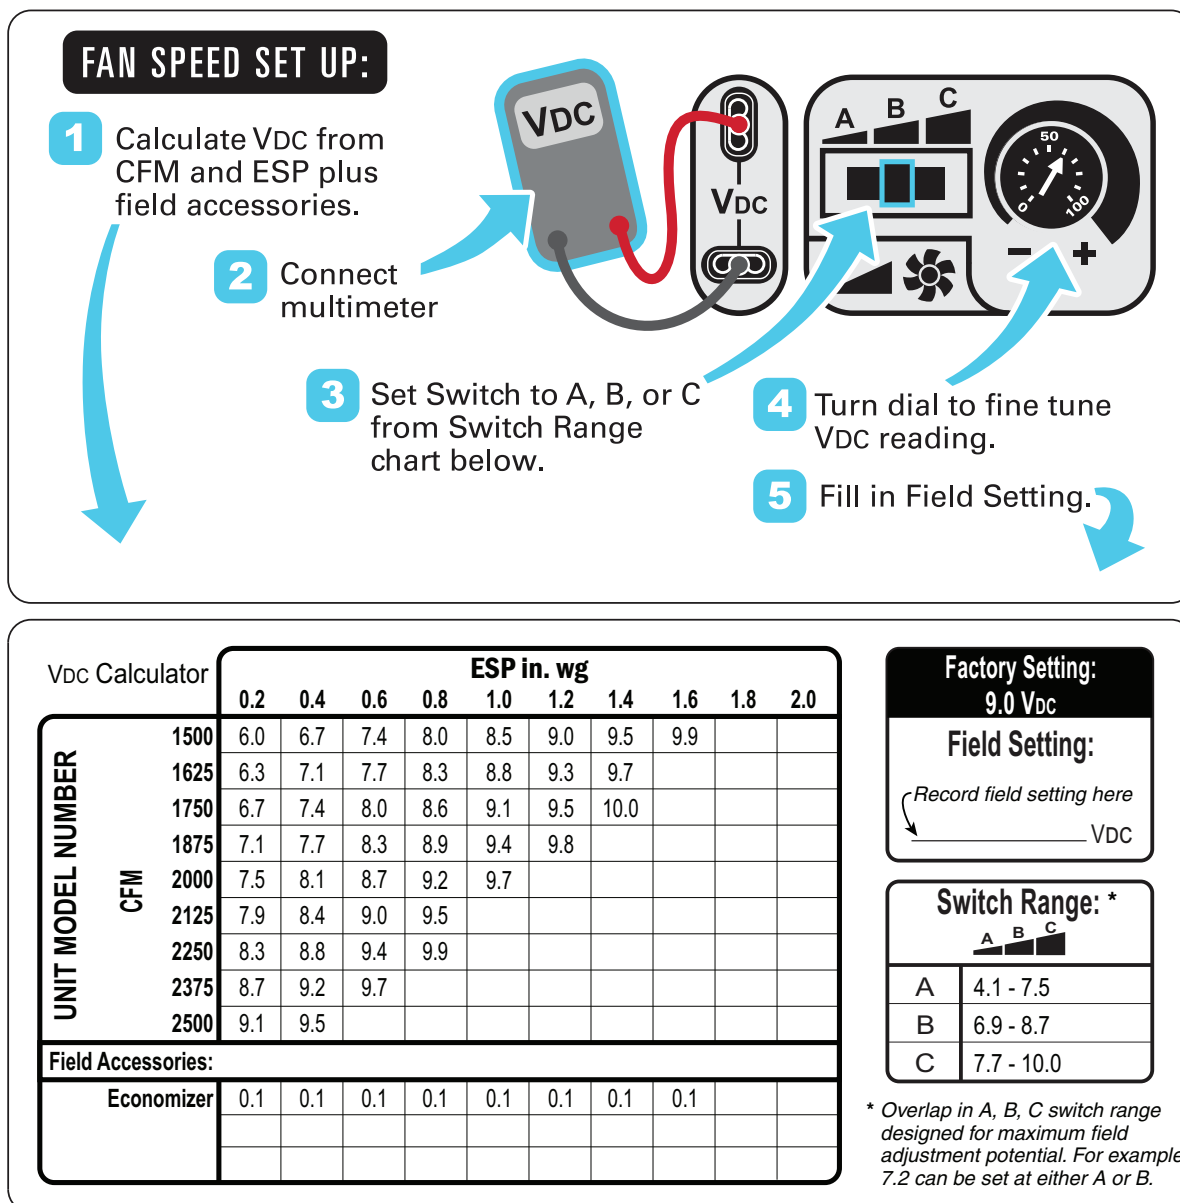

Fig. 68 — Example of Fan Speed Set Up Labels for Electro-Mechanical Controls
2. Using the chart on the fan speed set up labels (see Fig. 68), calculate the vdc from the CFM and ESP for the base unit. Then add vdc for any accessories installed per the “Field Accessories” section of the label.